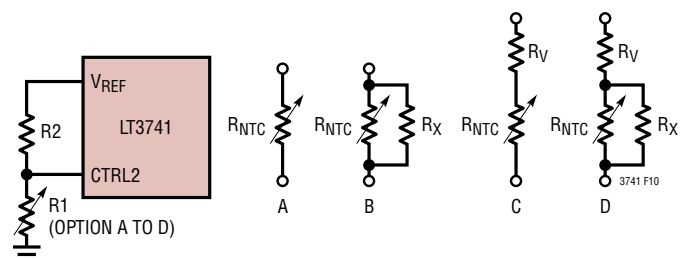

Figure 10. Load Current Derating vs Temperature Using NTC Resistor
The LT3741 is designed specifically for driving high power loads. In high current applications, derating the maximum current based on operating temperature prevents damage to the load. In addition, many applications have thermal limitations that will require the regulated current to be reduced based on load and/or board temperature. To achieve this, the LT3741 uses the CTRL2 pin to reduce the effective regulated current in the load. While CTRL1 programs the regulated current in the load, CTRL2 can be configured to reduce this regulated current based on the analog voltage at the CTRL2 pin. The load/board temperature derating is programmed using a resistor divider with a temperature dependant resistance (Figure 10). When the board/load temperature rises, the CTRL2 voltage will decrease. To reduce the regulated current, the CTRL2 voltage must be lower than voltage at the CTRL1 pin.
Figure 10 is a line graph showing Efficiency (%) versus Load Current (A) for the LT3741 and LT3741-1. The x-axis is logarithmic, ranging from 0.1 A to 100 A. The y-axis is linear, ranging from 40% to 100%. Both curves show a peak efficiency of approximately 95% at a load current of about 5 A. The LT3741-1 (blue curve) has a slightly higher efficiency at lower load currents (around 0.2 A to 1 A) compared to the LT3741 (red curve). The operating conditions are $V_{IN} = 20V$ and $V_{OUT} = 5V$.
Figure 10 is a load regulation graph showing the output voltage (V_{OUT}) in Volts versus the output current (I_{OUT}) in Amperes. The y-axis ranges from 0 to 6V, and the x-axis ranges from 0 to 26A. The graph shows a constant output voltage of 5V for output currents up to approximately 19.5A, after which the voltage drops sharply to 0V at 20A. The graph includes the following parameters: $V_{IN} = 20V$, $V_{OUT} = 5V$, and $I_{LIMIT} = 20A$.